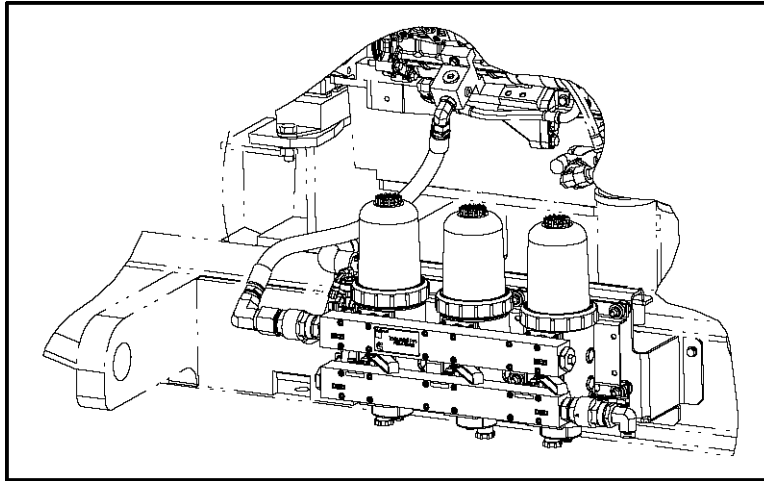

FIGURE 14. INSTALLED FUEL FILTER ASSEMBLY (TRIPLEX FILTER SHOWN)
3. Use five M10 screws and flat washers (items 6 and 7) to secure the fuel filter bracket to the side of the skid. Torque the screws to 52 ±5 N·m.
4. Secure the fuel filter and pump assembly (item 10) to the fuel filter bracket (item 16) using the provided eight flange nuts, isolator rings, isolator, flat washers, and hex head screws (items 8, 9, 11, 17, and 18). Torque the M10 flange nuts to 52 ±5 N·m.
5. Apply thread sealant and install the 1-5/16 inch elbow (item 2) on the upper part of the fuel filter pump.
7. Apply thread sealant and install the 1-1/4 to 1-inch reducer (item 3) on the lower part of the fuel filter pump.
8. Apply thread sealant and install the 1-inch elbow (item 4) on the reducer.
9. Connect the fuel line (item 1) to the fuel inlet connector, as shown in Figure 14.
10. Connect the engine harness to the fuel filter harness connector (item 5).